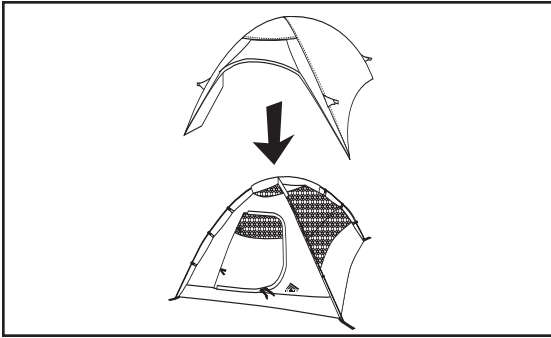

Figure 9
9. Find the blue edge binding on the fly. This will be the awning over the door and rear window. Drape the fly over the tent body (Fig. 9).